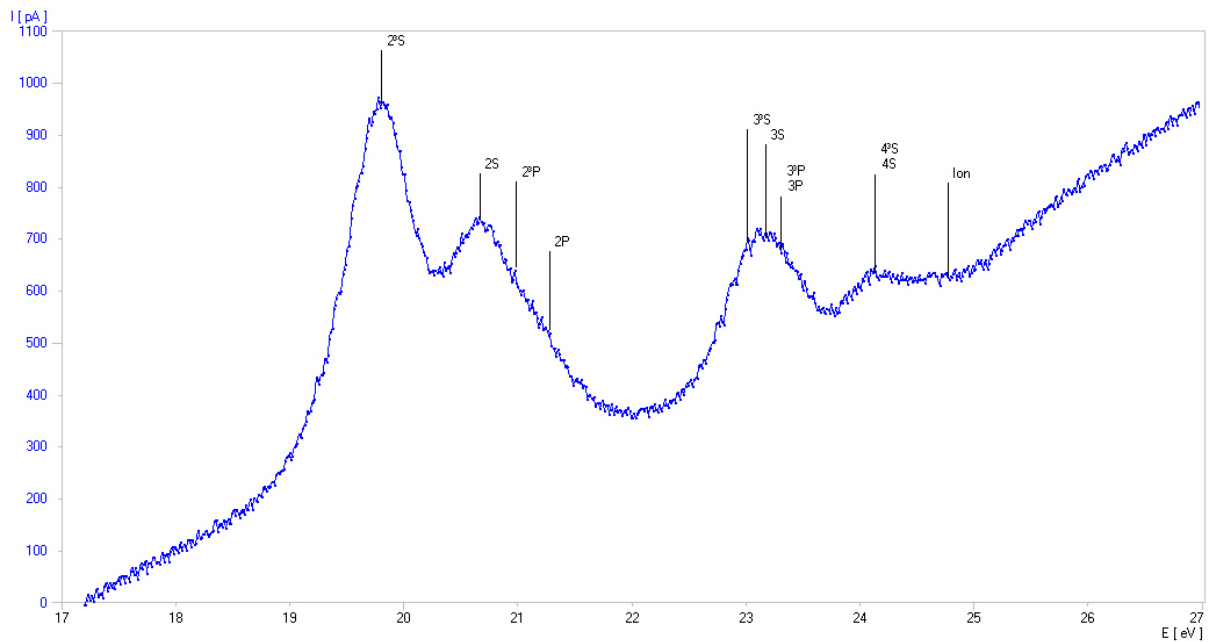

Fig. 3: Determination of critical potentials for helium atoms (curve recorded using 3B NET/log™)
- Set up a graph with the quantity E on the x-axis and the quantity I on the y-axis. (See Fig. 3).